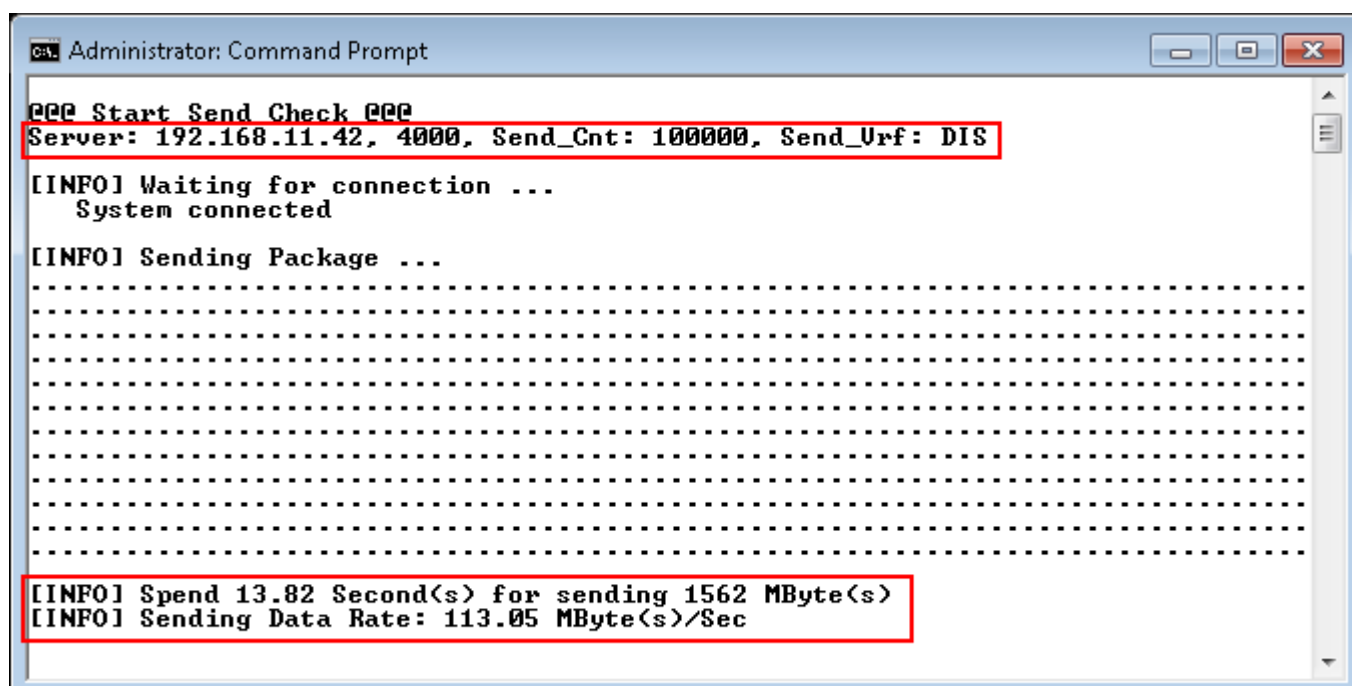

Figure 4-15 Receiving Demo on Performance test mode
- Test application displays “...” during transferring packet. Time usage with performance will be displayed when complete data transfer, as shown in Figure 4-15.